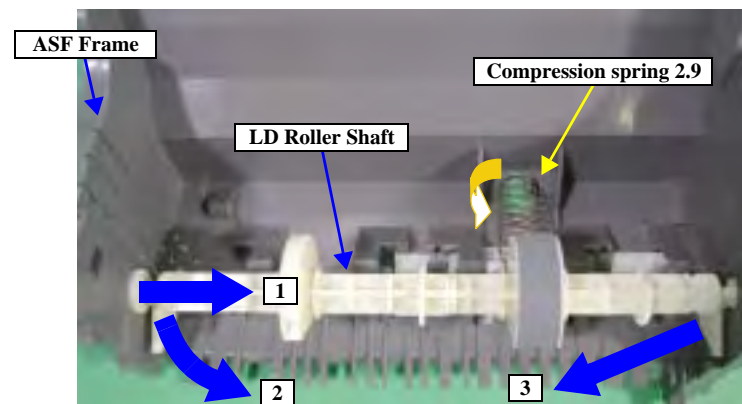

Figure 4-53. ASF Unit Disassembly 4
8. While spreading the left side surface of the ASF Frame toward the outside, follow the order shown in Figure 4-53 to remove LD Roller Shaft.